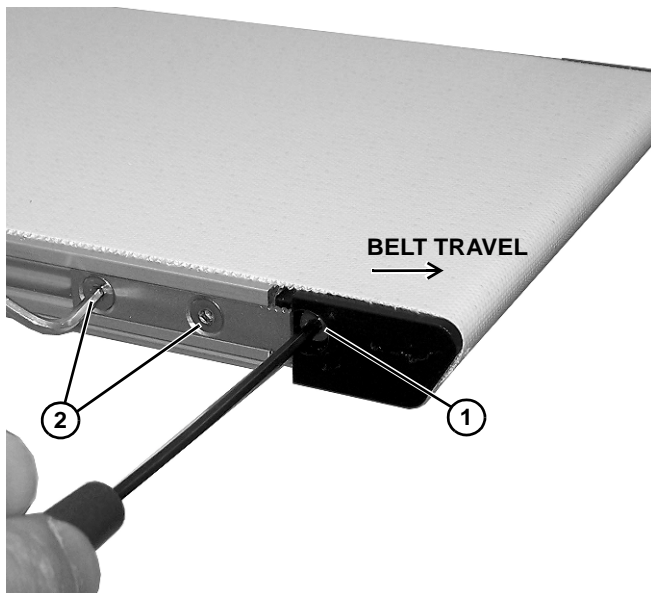

Figure 31
Non V-guided belt conveyors are equipped with a belt tracking cam (Figure 31, item 1) for belt tracking adjustment.
1. With conveyor running, insert 2.5 mm hex wrench into tracking cam (Figure 31, item 1) on the side toward which the belt is tracking.
2. Loosen head plate fastening screws (Figure 31, item 2).
3. Rotate tracking cam (Figure 31, item 1) in small increments until belt tracks in the center of conveyor.
4. While holding tracking cam (Figure 31, item 1), tighten head plate fastening screws (Figure 31, item 2) to 12 in-lb (1.4 Nm).